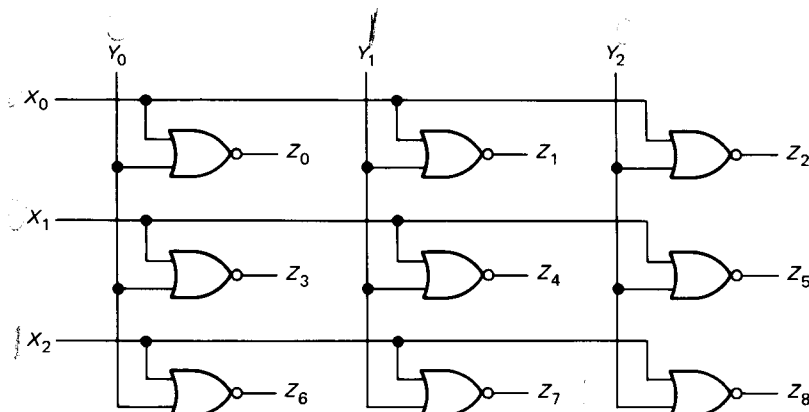

Fig. 3-26 NOR-gate crossbar switch.
- 3-3. Figure 3-26 shows a NOR-gate *crossbar switch*. If all  $X$  and  $Y$  inputs are high, which of the  $Z$  outputs is high? If all inputs are high except  $X_1$  and  $Y_2$ , which  $Z$  output is high? If  $X_2$  and  $Y_0$  are low and all other inputs are high, which  $Z$  output is high?
- 3-4. In Fig. 3-26, you want  $Z_7$  to be 1 and all other  $Z$  outputs to be 0. What values must the  $X$  and  $Y$  inputs have?
3-17. Suppose the NOR gates of Fig. 3-26 are replaced by NAND gates. Then you've got a NAND-gate crossbar switch.